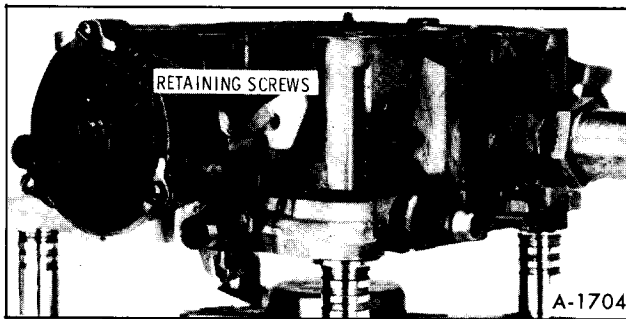

Figure 18—Choke Housing
8. Remove primary metering jets. No attempt should be made to remove secondary metering plates (figure 18).
1. Remove three retaining screws and retainers from choke cover and coil assembly. Then pull straight outward and remove cover and coil assembly from choke housing. See Figure 18.